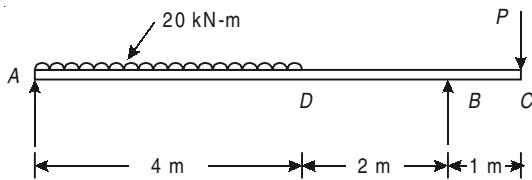

Fig. 5.40
5.18. Determine load P such that reactions at supports A and B are equal in the beam shown in Fig. 5.40. Draw SF and BM diagram marking the values at salient points.